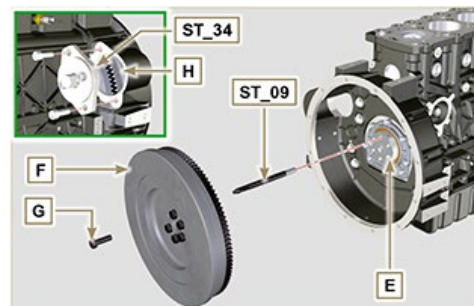

Fig 9.29
1. Screw the special tool **ST_09** on the crankshaft **E** instead of the screws **G** positioned higherup (Fig. 9.29).
4. Mount tool **ST_34** in the seat of starter motor **H** (**Fig. 9.29**) and fix it with two motor fixing screws.